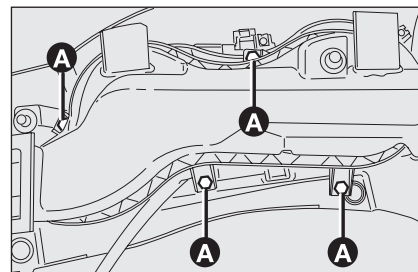

fig. 23
- loosen the four screws **A-fig. 23** and disconnect the two connectors;